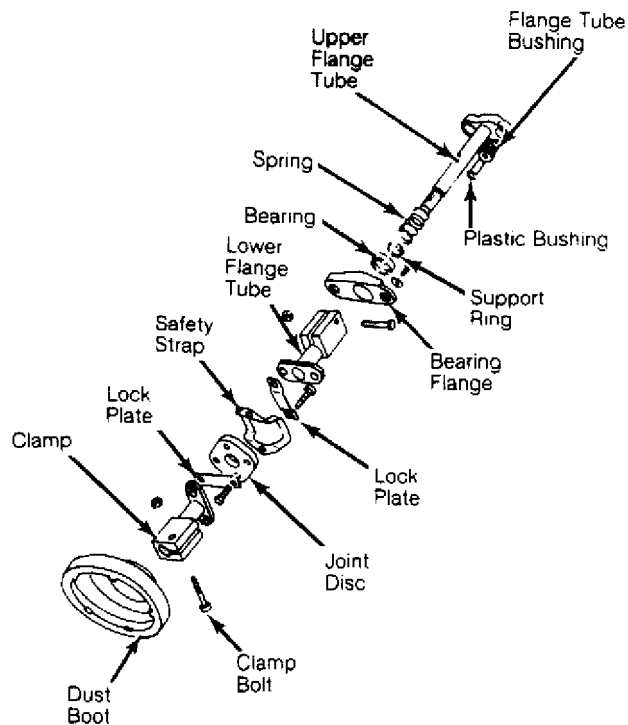

Fig. 2: Exploded View of Lower Steering Column
1) Remove lower flange tube clamp bolt from lower steering shaft. Separate flange tubes and remove bearing flange, bearing, support ring, spring and washer. See Fig. 2.
2) Push upper flange tube toward steering shaft until components can be separated. Remove flange tube bushings with plastic bushings. See Fig. 2. Remove joint disc bolts and pinion clamp bolt. Slide column tube from steering shaft. See Fig. 1.